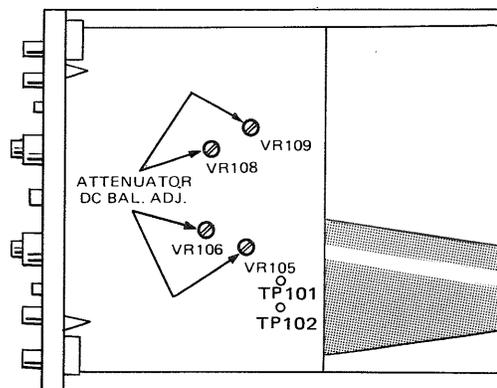

Fig. 40.
1. CRT Center adjustment (Fig. 40).
* Turn the vertical attenuator VARIABLE (6) [(9) for CH2] fully counterclockwise.
* Turn the \blacktriangle POSITION (1) [(12) for CH2] until the trace is centered on the scale.
* Turn the VARIABLE fully clockwise. If, at this time, the trace shifts is position, adjust the DC BAL (2) [(13) for CH2] until the trace is positioned on the center horizontal line of the scale.
* Repeat steps (2), (3) and (4) until the trace remains stationary even when THE VARIABLE (6) is turned.
3. STEP ATT DC BAL Adjustment (Fig. 40).
* Turn the \blacktriangle POSITION (1) [(12) for CH2] until the trace is centered on the scale at 10 mV range of VOLTS/DIV.